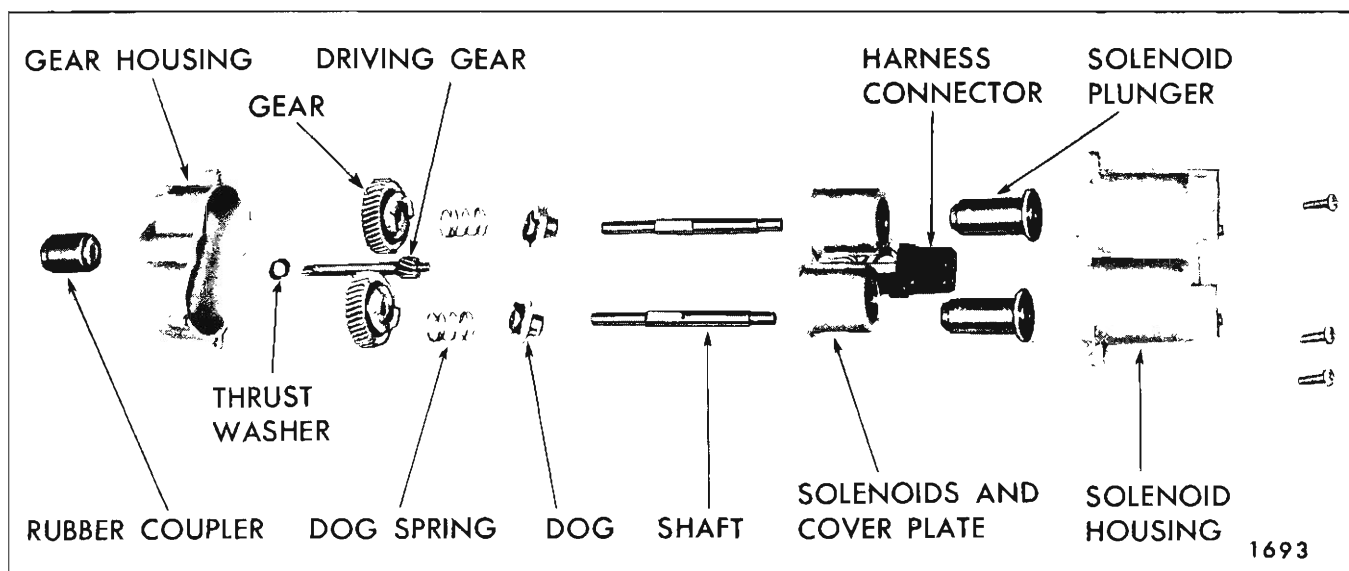

Fig. 2H9—Exploded View of Four-Way Seat Transmission
2. Remove screws securing gear and solenoid housings together; then, carefully separate housings and remove component parts of transmission assembly (Fig. 2H9).